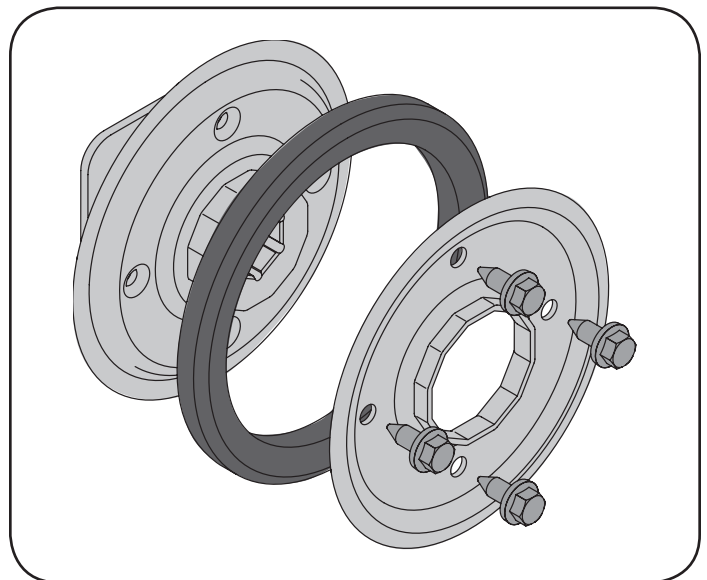

Figure 33
1. Remove the four screws which secure the friction wheel's side plates together. See Figure 33.